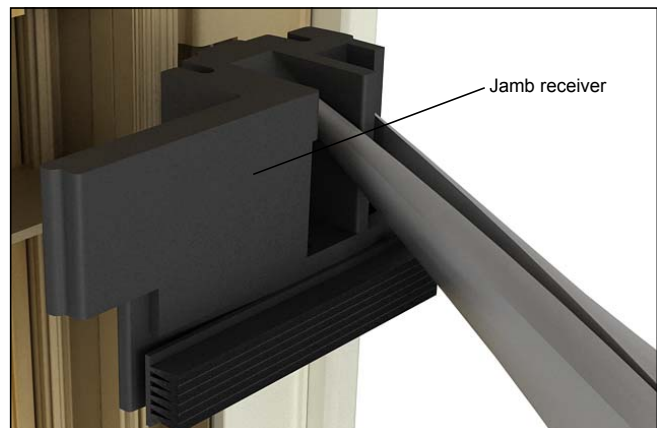

Figure 3
2. Remove jamb receiver. See figure 3.